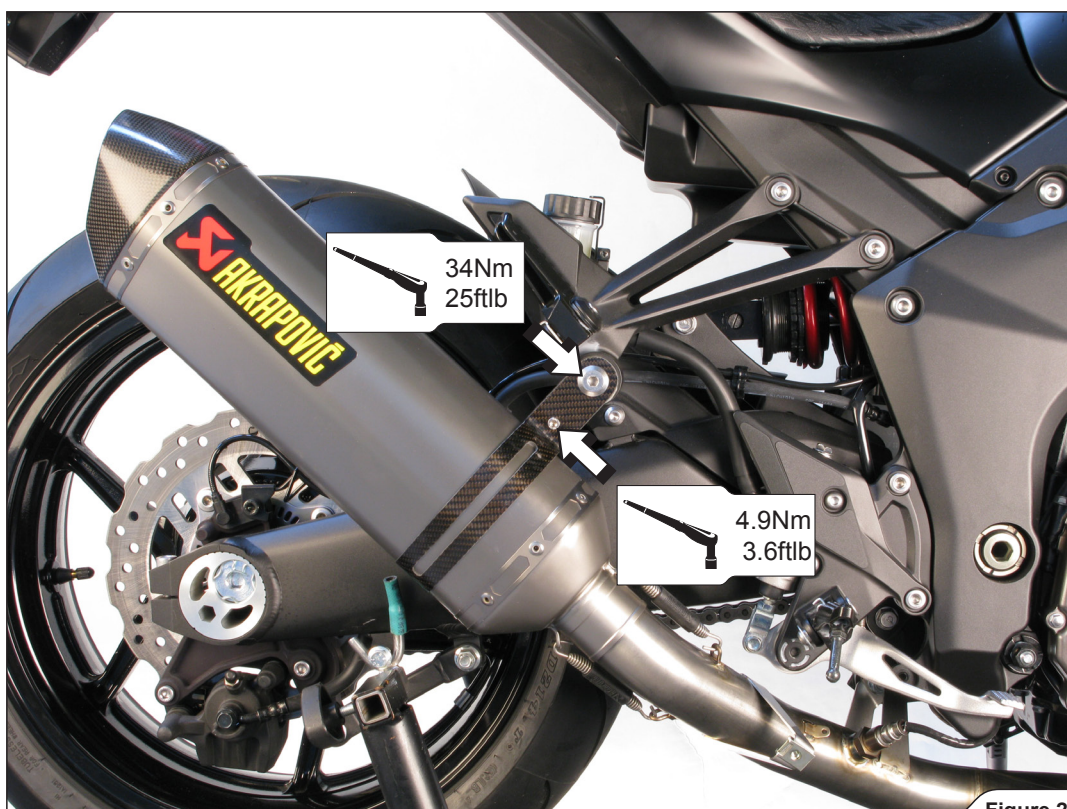

Figure 22
8. Slide the muffler onto the outlet side of the link pipe and attach the springs. Align the muffler in respect to the motorcycle and tighten the carbon fiber clamp to the specified torques (**Figure 22**).